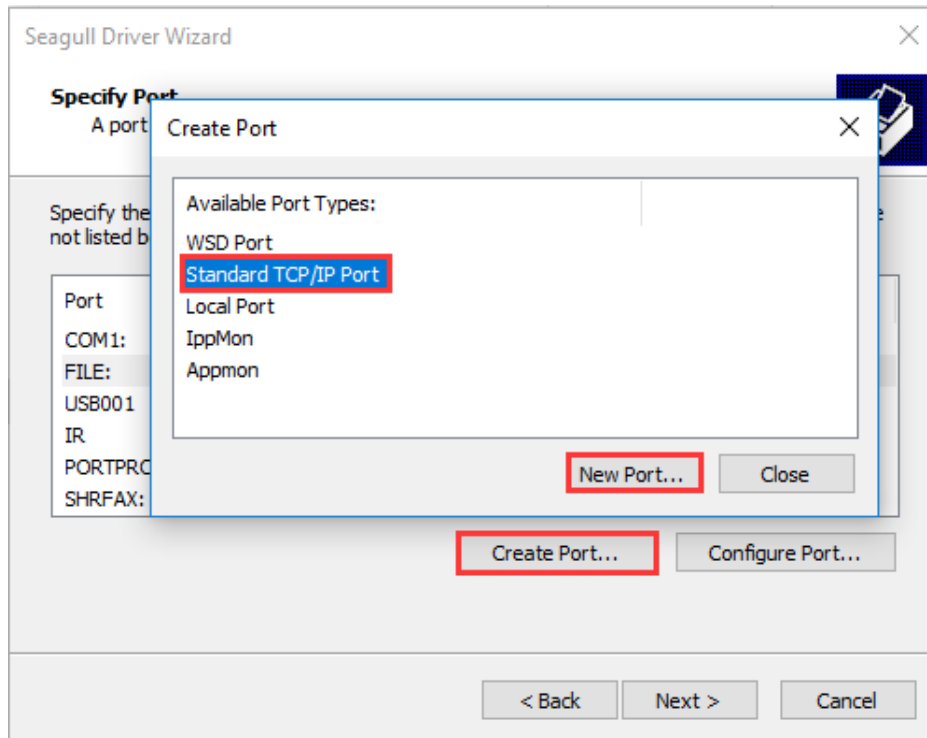

Figure 2-35 Create Port
- 5. On the “Specify Port” screen, click “Create Port...” to bring up “Create Port” dialog box, select “Standard TCP/IP Port” - “New Port...”, as shown in Figure 2-35.